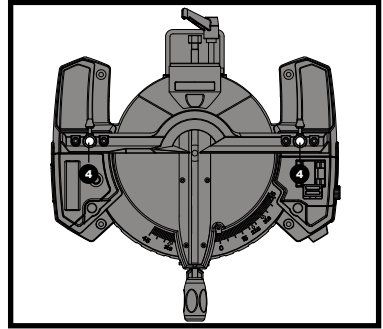

Fig 7
2) Place the hold-down clamp assembly (3) in one of the mounting holes (4). (See fig. 7)